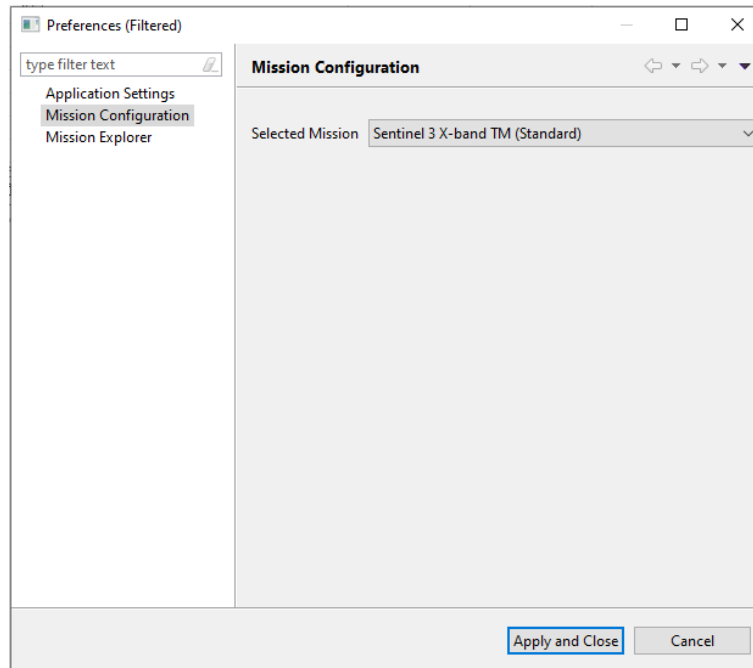

Figure 30: Active Mission Configuration
3. Select the new active mission using the combo box “Selected Mission” shown in Figure 30.